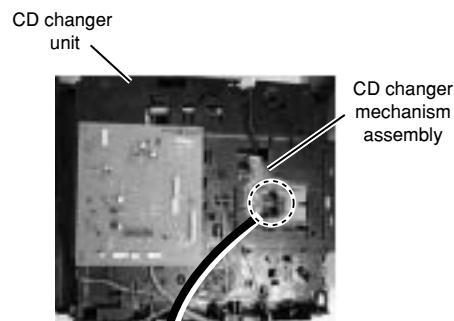
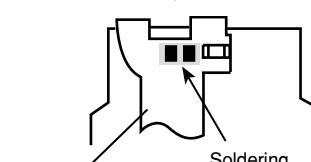

Fig.1
Fig.2
3. Solder is put up before the card wire is removed from connector Cn601 on the main board as shown in Fig.1 and Fig.2.